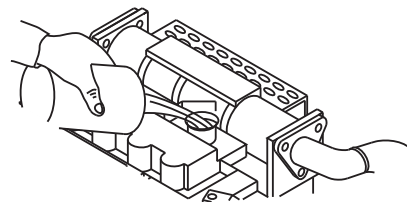

Figure 15. Engine Oil Filler Hole
4. If the engine oil level is low, add oil through the engine oil filler hole (Figure 15) with the recommended oil type (Table 3). Maximum oil capacity is 3-3/8 quarts (3.2 liters).